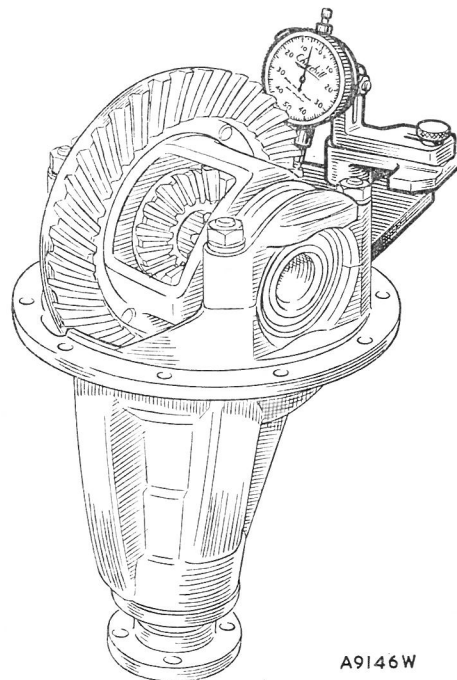

Fig. H.14
- (3) Fit the differential to the gear carrier. Replace the bearing caps and tighten the nuts to a torque wrench reading of 65 lb. ft. (8.99 kg. m.). Bolt the Service tool surface plate to the gear carrier flange and mount the clock gauge on the magnet bracket in such a way that an accurate backlash figure may be obtained. (See Fig. H.14.) The correct figure for the backlash to be used with any particular crown wheel and pinion is etched on the rear face of the crown wheel concerned and must be adhered to strictly.